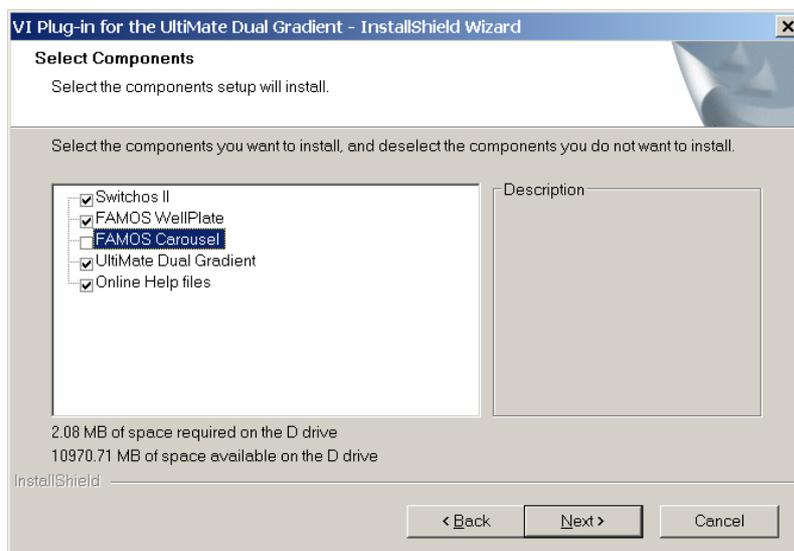

FIGURE 2-10 The Select Components Box for the UltiMate Dual Gradient Components
- c) Follow the steps c) – e) as described in Section 2.3.1 to present the 'Select Component' box (FIGURE 2-10)
- d) Check the instruments that are present in your instrument configuration (FIGURE 2-10).